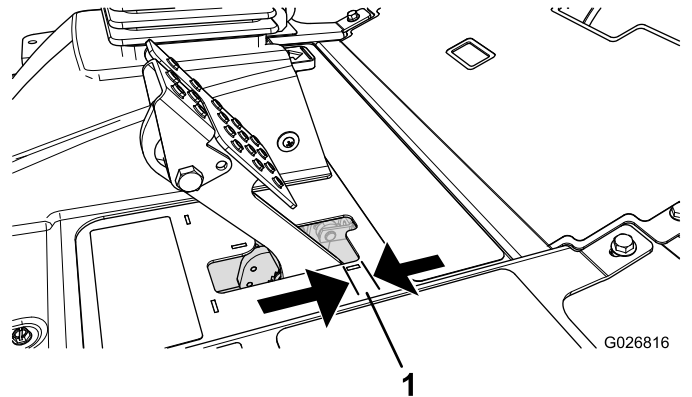

Figure 55
Adjust the brakes when there is more than 2.5 cm (1 inch) of free travel (Figure 55) of the brake pedal, or when more holding force is required. Free travel is the distance the brake pedal moves before you feel braking resistance.
2. Tighten the rear nut to move the cable backward until brake pedals have 0.63 to 1.27 cm (1/4 to 1/2 inch) of free travel (Figure 55), before wheel lock up is achieved.